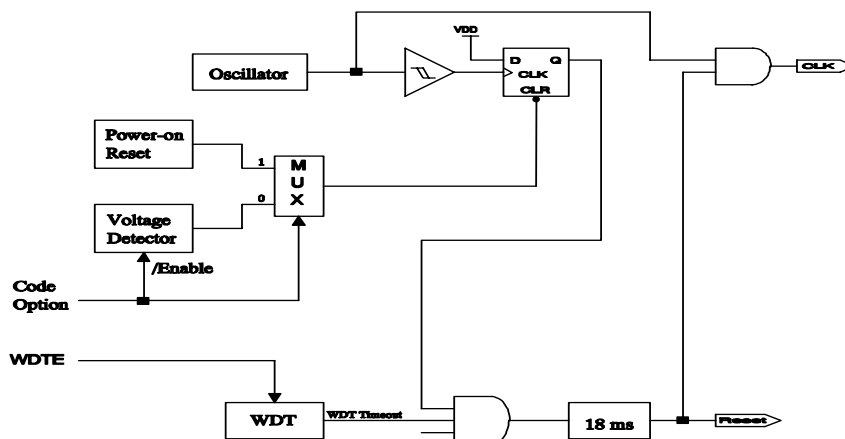

Fig.12 Block diagram of Reset of controller
If Voltage detector is disabled, Power on reset is selected in Case (1). Refer to Fig.12.